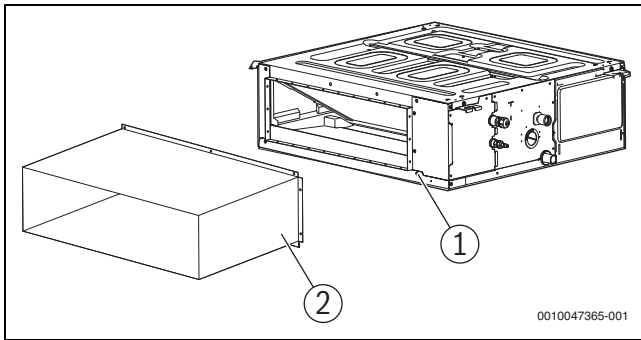

Fig. 81
- If the air outlet panel is far away from the unit and needs to be connected to the air outlet flange of the unit through a metal air duct, sponge shall be pasted on the contact surface of sheet metal for sealing and thermal insulation.(→ figure 81).